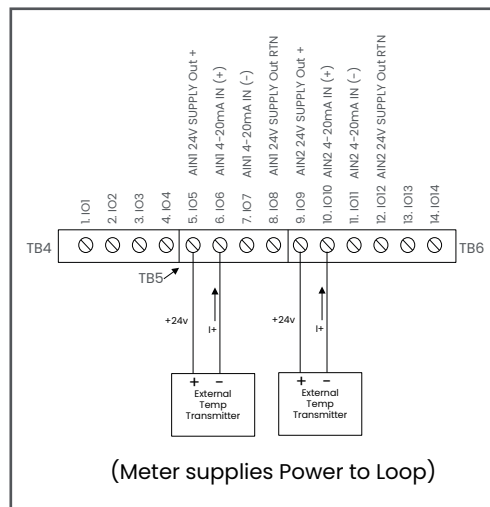
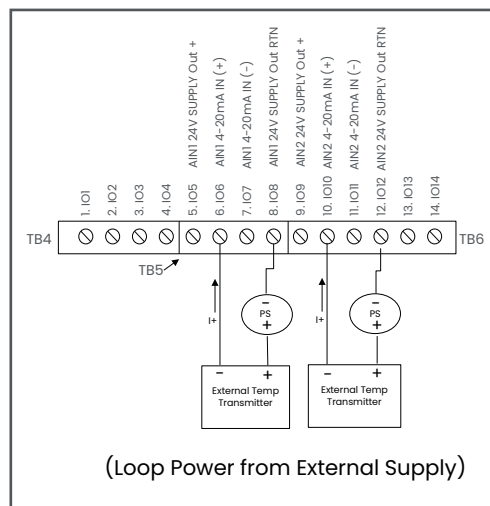

Figure 27: Wiring the 4-20mA Inputs Active
Figure 28: Wiring the 4-20mA Inputs Passive
Note: The 4-20mA inputs in the XGF1100 can be wired for active (supply current loop power) or passive (loop power supplied externally) mode. Refer to the Figure 27 and Figure 28 for proper connection.
3. Feed one end of the cable through the conduit hole and wire it to the terminal block TB5 or TB6 as shown in Figure 27 or Figure 28. Secure the cable gland.